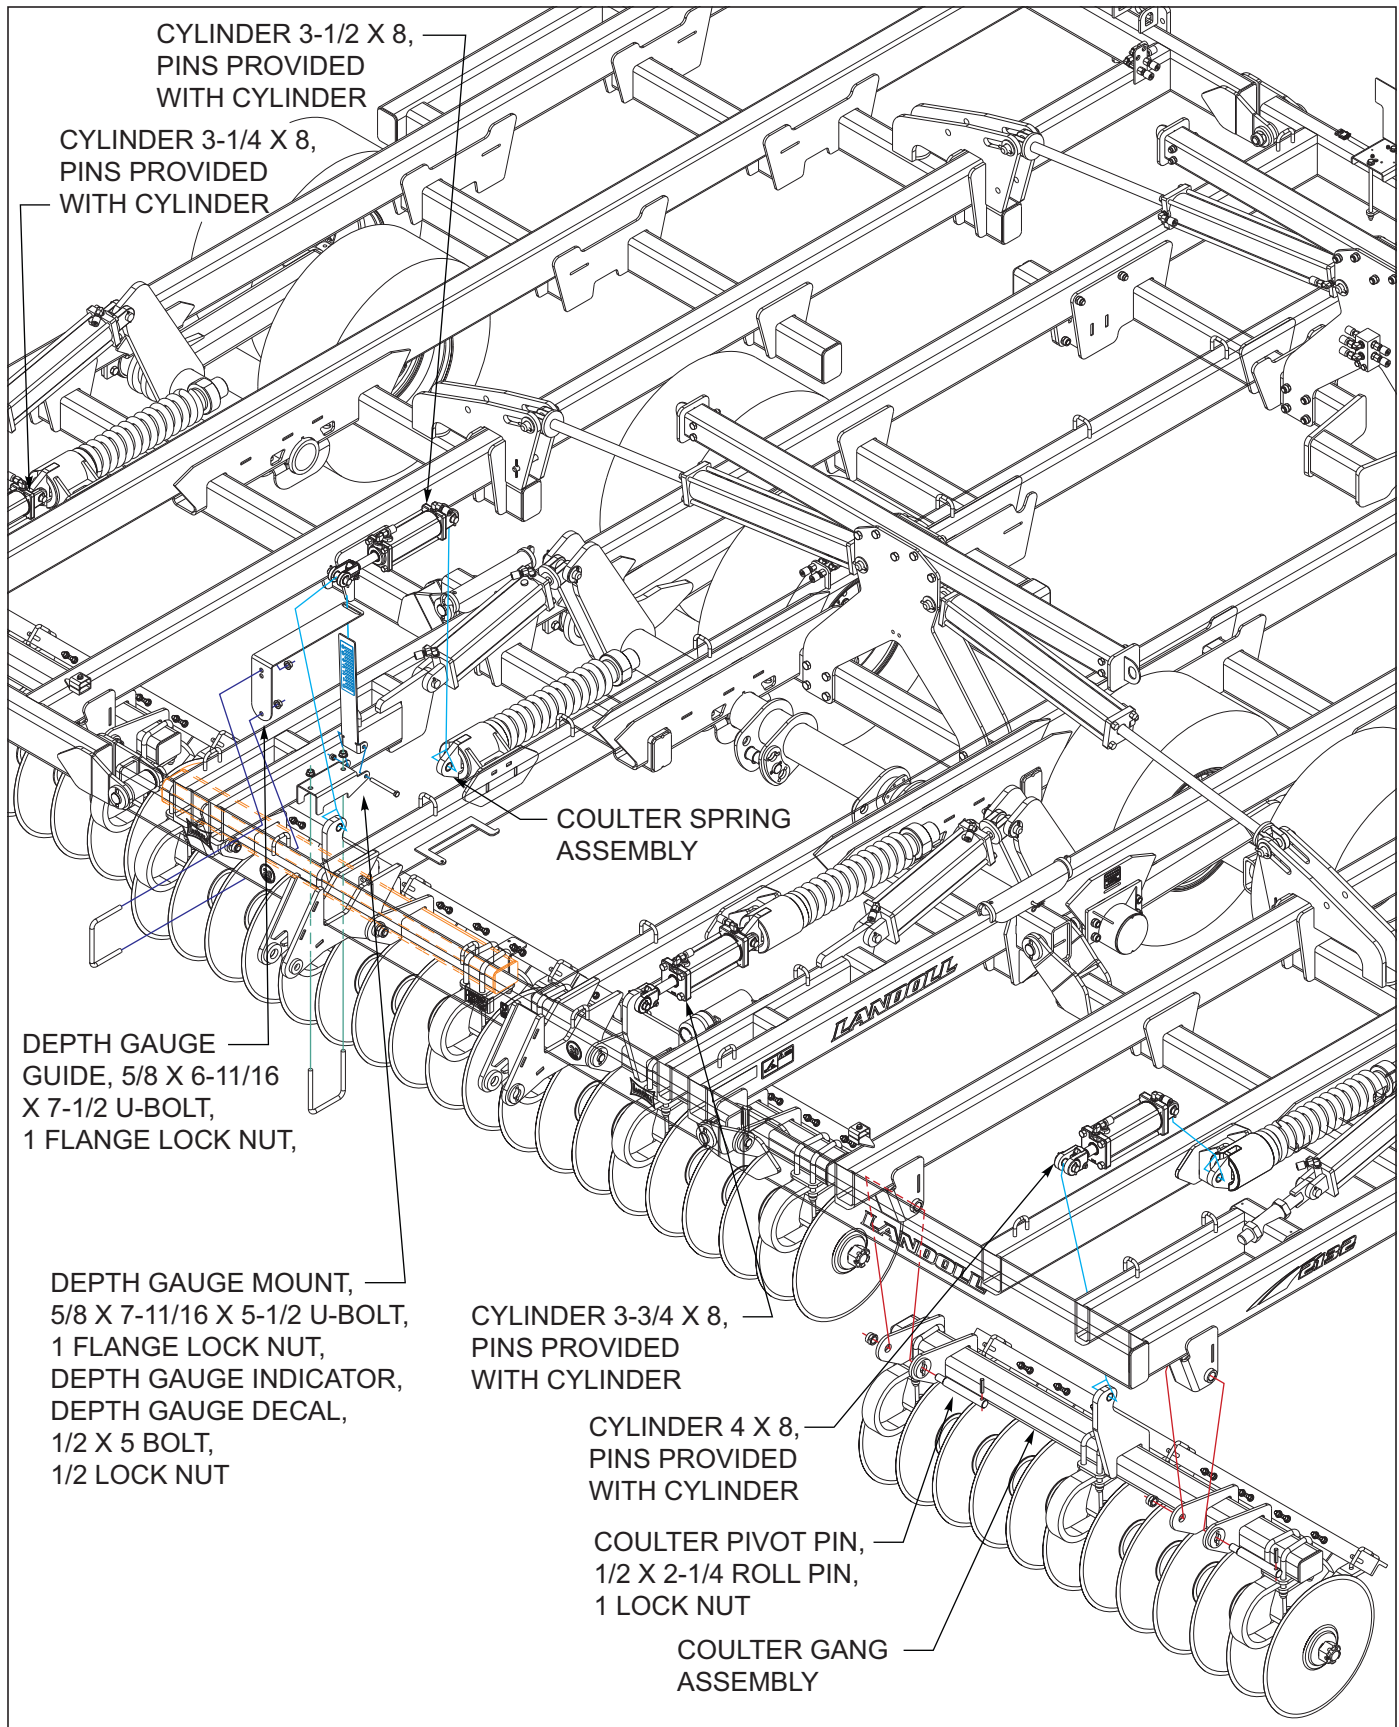
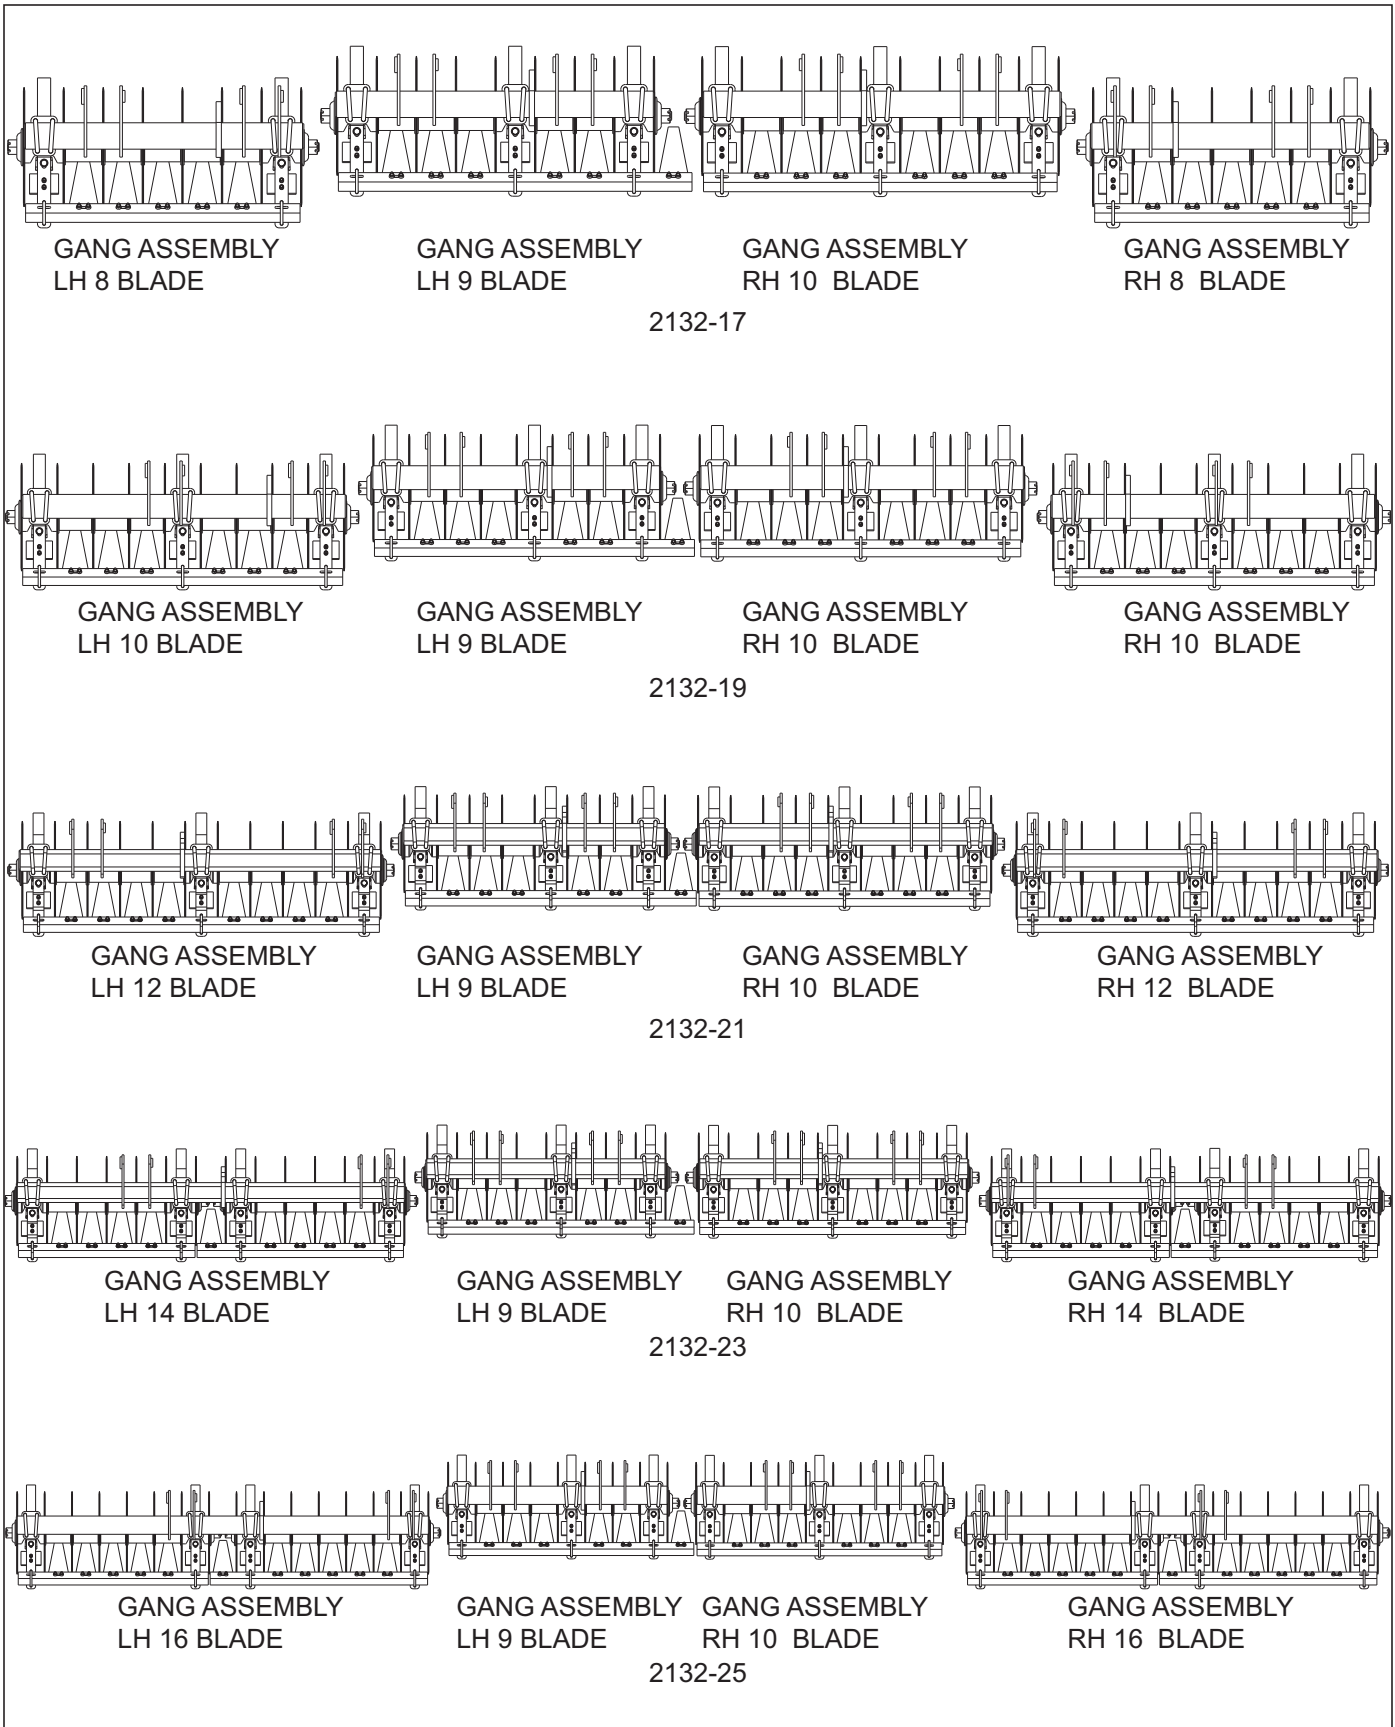

Figure 3-6: Coultter Gang Installation
Figure 3-7: Coulters Gang Placement
1. Attach the coulter gang assemblies to the center and wing frames using coulter pivot pin, 1 lock nut, and 1/2 x 2-1/4 roll pin See Figure 3-6 and See Figure 3-7 for gang assembly placement.